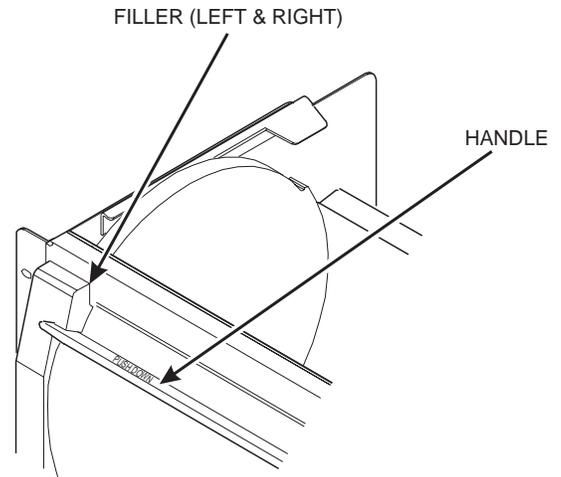

Figure 2
3. Hold the delivery door in the "home" position. This is done by pushing the handle of the delivery door up against the left and right fillers (see figure 2).